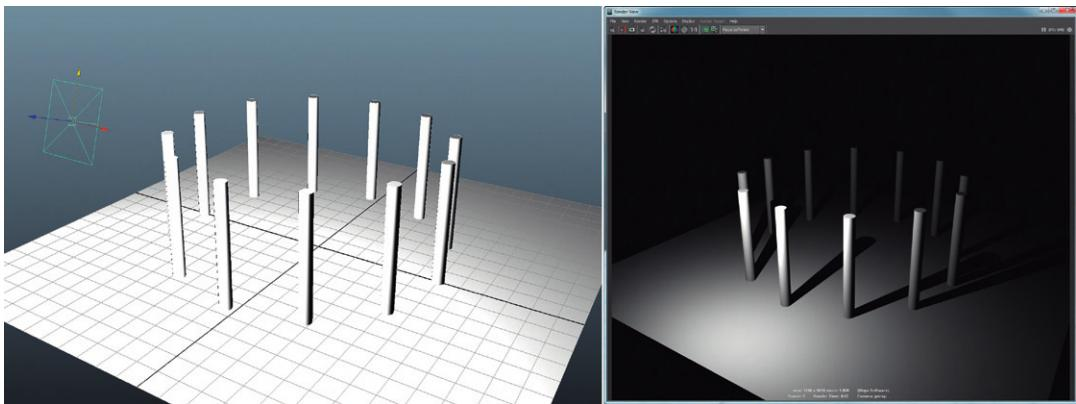

FIG 7.19 Effects of an area light.
Step 20: Change our demo light to Type: Area Light. Reactivate Decay: Linear and change its intensity to 80. Move it to approximate Fig. 7.19 and render.